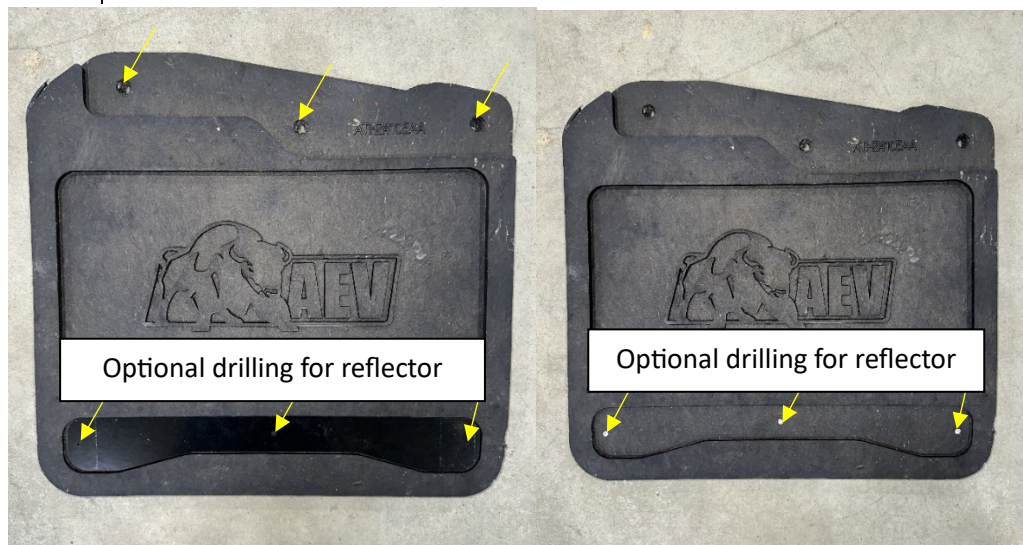

Figure 8
1. Drill out the 3 pre-formed holes on your rubber splash guard piece using M10 or 3/8" drill bit (Figure 8).
2. (Optional) Place black plastic reflector backing onto AEV rubber splash guard piece and mark 3 holes for drilling (Figure 8).